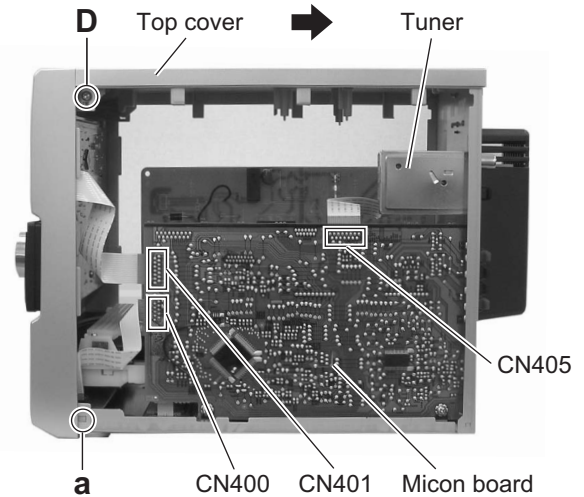

Fig.4
- From the both side of the main body, remove the two screws **D** attaching the top cover. (See Fig.4.)
- Remove the top cover in the direction of the arrow. (See Fig.4.)
3.1.3 Removing the front panel assembly (See Fig. 4)
3.1.4 Removing the tuner (See Figs.4 and 5)
- From the right side of the main body, disconnect the card wire from the connector CN405 on the micon board. (See Fig.4.)
3.2.3 Removing the traverse mechanism assembly (See Fig.4)